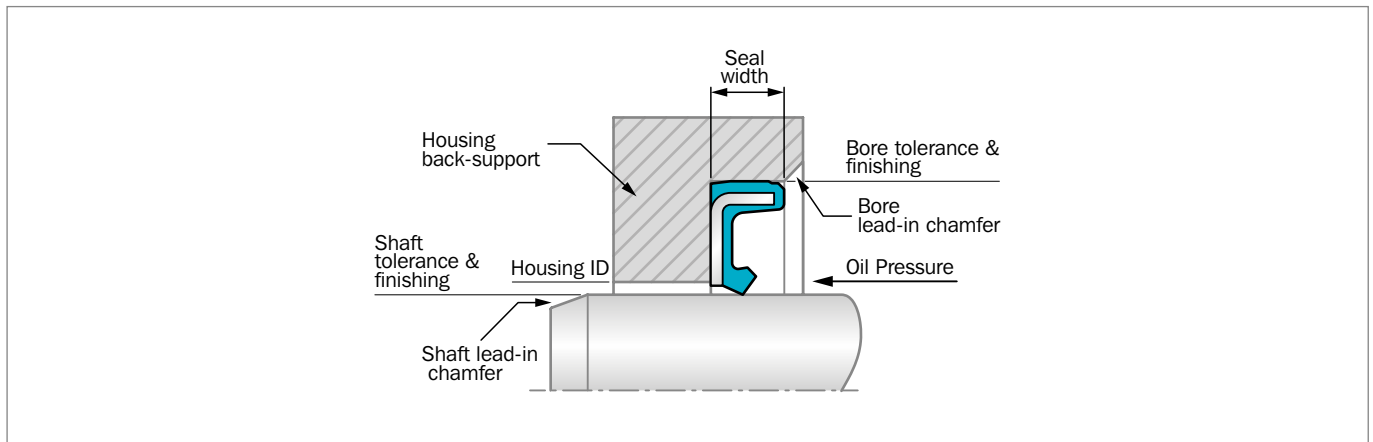

Figure 27: Installation Drawing
- The maximum assembly and working misalignment must be according to graph (Figure 27)